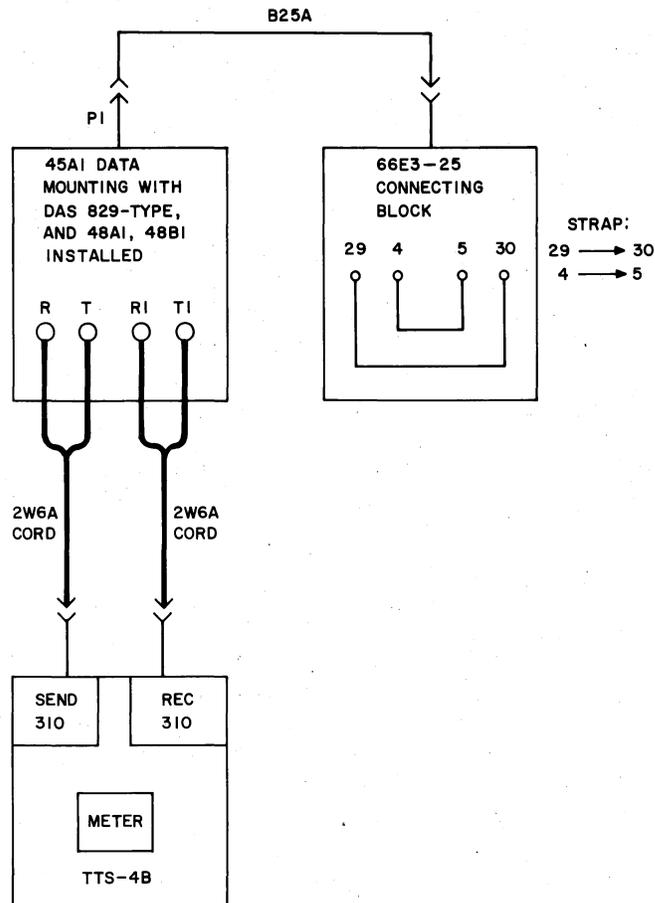
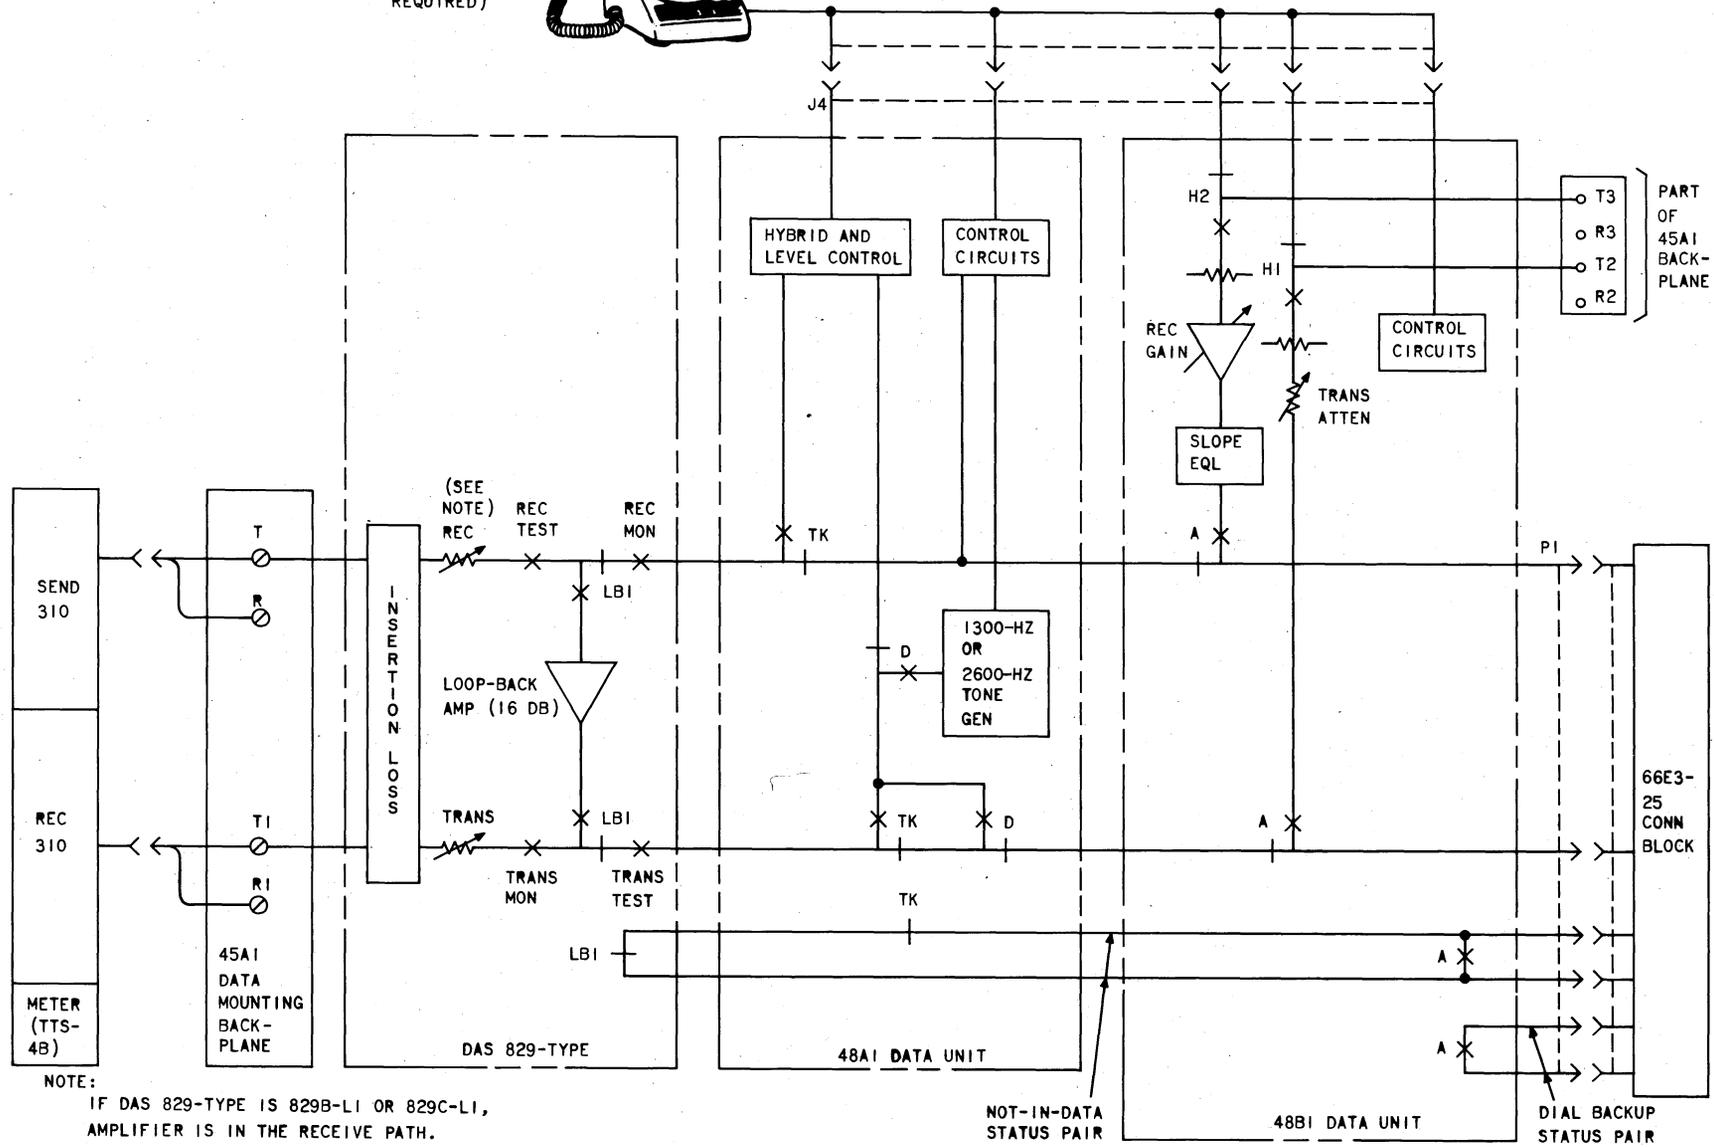

Fig. 1—Example of Test Arrangement for Testing DAS 829-Type, 48A1 and 48B1 Data Units
Fig. 2—Circuit Arrangement for Testing DAS and Data Units in 45A1 Data Mounting
- 16 Adjust the SEND LEVEL on the TTS-4B to obtain a REC LEVEL reading of between -16 dBm and -25 dBm. Fig. 1 shows an example of the test setup. The circuit arrangement of the test is shown in Fig. 2.
TRANS = Refers to loss of TRANS attenuator on any DAS 829-type. INSERTION LOSS = The losses due to slope equalization circuitry and hazardous protection circuitry. These values are shown in Table A and correspond to the loss through DAS 829 measured as shown in Fig. 1 and 2. REC LEVEL = Reading between -16 dBm and -25 dBm on TTS-4B.
TRANSMIT INSERTION LOSS = the loss due to slope equalization circuitry and hazardous protection circuitry in the transmit pair. These values are given in Table B and correspond to the loss through the transmit pair of DAS 829-type as shown in Fig. 1 and 2.